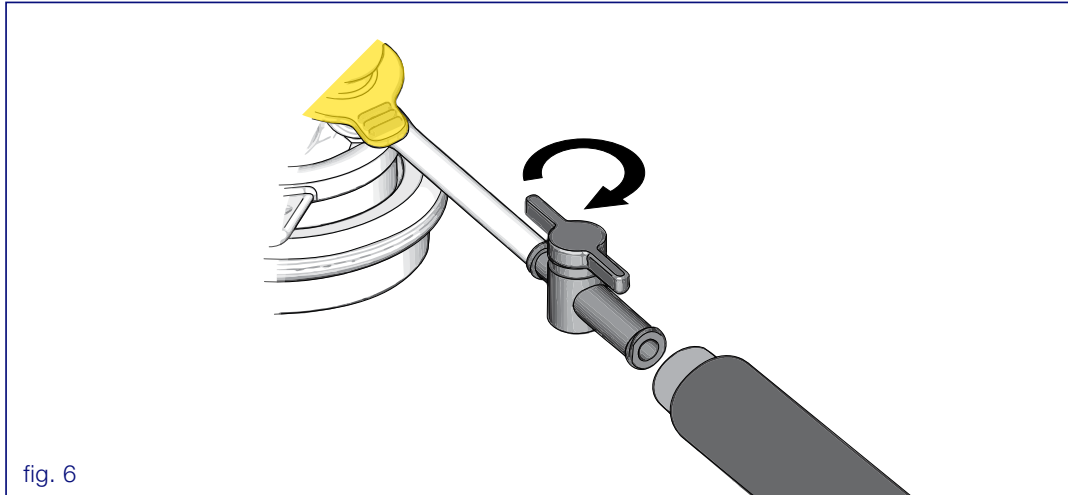

fig. 6
- Insufflate abdomen through either of the insufflation/venting ports (fig. 6).